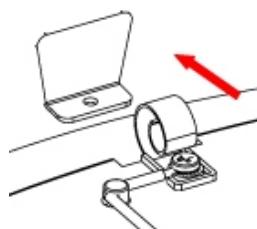

Figure 2.
- Carefully remove the casing since it is connected to the base by a tab that joins the two pieces (casing and base) at the rear (Figure 2).